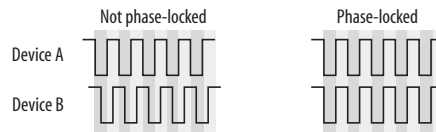

Figure 3-6: When transferring audio, two devices must have phase-locked audio clocks to prevent clicks, pops or other artifacts.
- Synchronizing the 896HD with other digital audio devices so that their digital audio clocks are *phase-locked* (as shown in Figure 3-6)